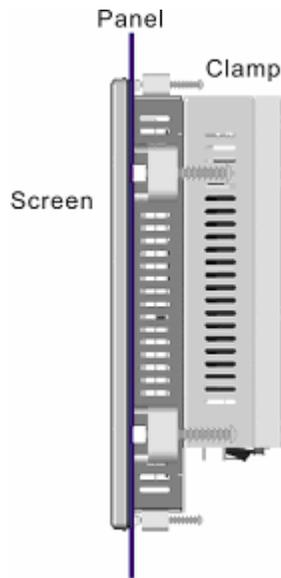

Figure 4-25: Tighten the Panel Mounting Clamp Screws
Step 5: Tighten the screws that pass through the panel mounting clamps until the plastic caps at the front of all the screws are firmly secured to the panel (**Figure 4-25**).